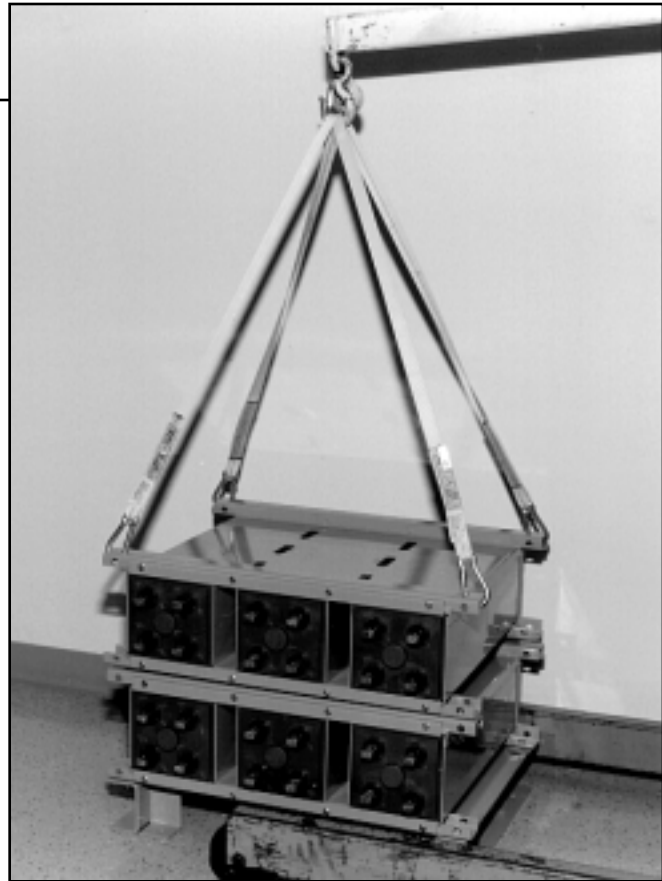

Fig. 6
3. Remove the next module and bolt onto the first module. Repeat this procedure until the battery is installed to the specified configuration. (See Fig. 6 and 7, pg. 6.)